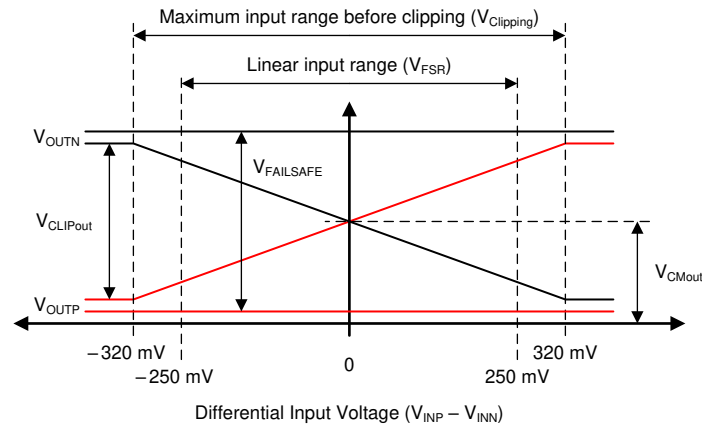

Figure 7-2. Output Behavior of the AMC3301
The AMC3301 offers a differential analog output comprised of the OOUTP and OOUTN pins. For differential input voltages ($V_{INP} - V_{INN}$) in the range from -250 mV to $+250$ mV, the device provides a linear response with a nominal gain of 8.2. For example, for a differential input voltage of 250 mV, the differential output voltage ($V_{OOUTP} - V_{OOUTN}$) is 2.05 V. At zero input (INP shorted to INN), both pins output the same common-mode output voltage V_{CMOut} , as specified in the Electrical Characteristics table. For absolute differential input voltages greater than 250 mV but less than 320 mV, the differential output voltage continues to increase in magnitude but with reduced linearity performance. The outputs saturate at a differential output voltage of $V_{CLIPout}$ as shown in Figure 7-2 if the differential input voltage exceeds the $V_{Clipping}$ value.
The AMC3301 provides a fail-safe output that simplifies diagnostics on system level. Figure 7-2 shows the fail-safe mode, in which the AMC3301 outputs a negative differential output voltage that does not occur under normal operating conditions. The fail-safe output is active in two cases:
- The low-side does not receive data from the high-side (for example, because of a loss of power on the high side). In this case, the amplifier outputs are driven to the $V_{FAILSAFE}$ value that is shown in Figure 7-2.
- The high-side DC/DC output voltage (DCDC_OUT) or the high-side LDO output voltage (HLDO_OUT) drop below their respective undervoltage detection thresholds (brown-out). In this case, the low-side may still receive data from the high-side but the data may not be valid. The amplifier outputs are driven to the $V_{FAILSAFE}$ value that is shown in Figure 7-2.